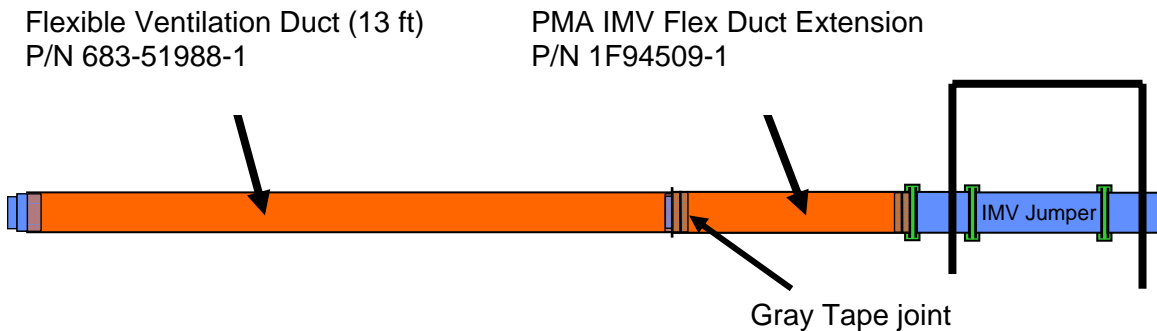

Figure 6.- Ventilation Ducting Installed Configuration.
Refer to Figures 6, 7.
- 4.3 Secure Non-Velcro end of Flexible Ventilation Duct (13 ft) inside straight-flanged end of PMA IMV Flex Duct Extension (Gray Tape). Refer to Figure 6,7.